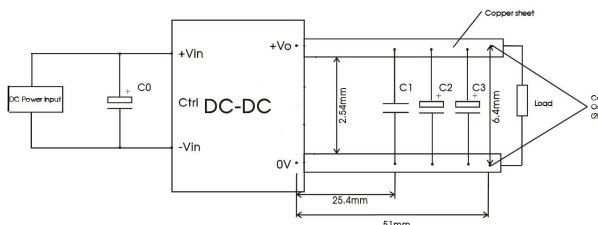

Fig. 3
- ② The ripple & noise is tested in accordance with Design Reference Fig. 3, 4000μF/16V(300 μ F MLCC+3700 μ F Oscon);
- ③④ ΔT_3 and ΔT_4 see the picture below;